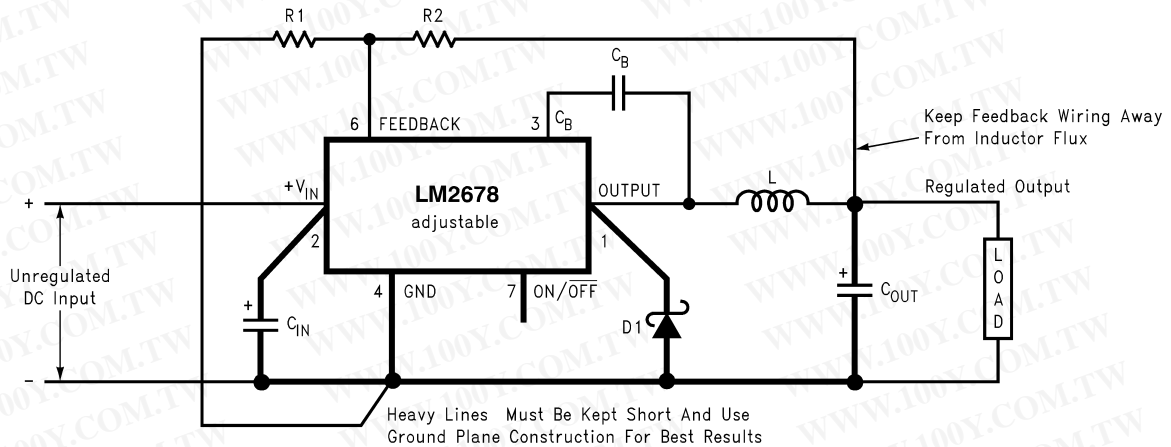

FIGURE 2. Basic circuit for adjustable output voltage applications
Step 2: Select an LM2678S-ADJ. To set the output voltage to 14.9V two resistors need to be chosen (R_1 and R_2 in Figure 2). For the adjustable device the output voltage is set by the following relationship: